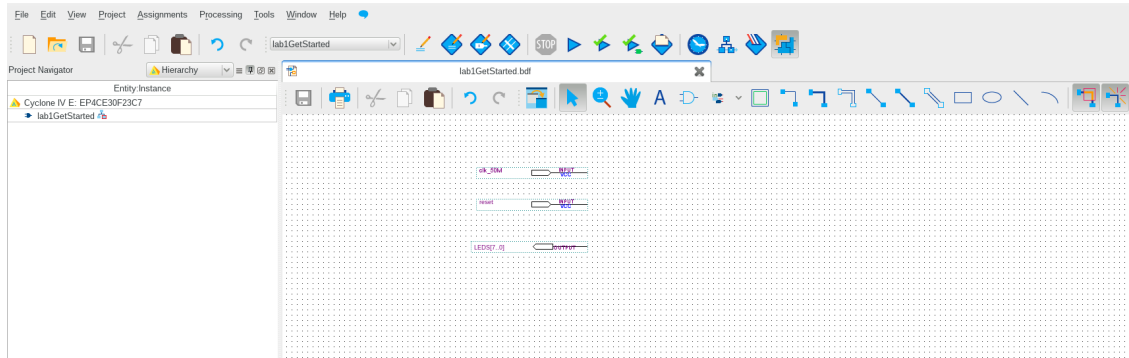

Figure 3: The three added IO ports
- ▶ By following the same procedure2, add another input called *nReset* and an output called *LEDS[7..0]*. Note that [7..0] refers to an 8 bits bus, with every bit numerated from "7 downto 0". The three ports will look like the ones shown in figure 3